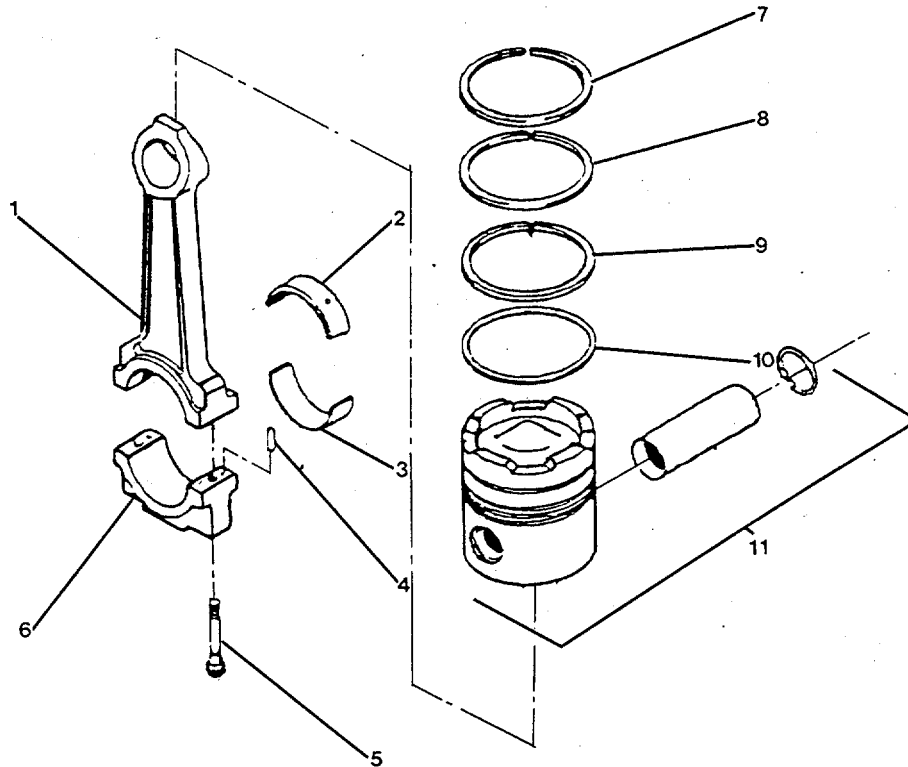

FIGURE 3-57. Connecting Rod and Piston Group.
- b. Loosen the connecting rod machine bolts (5, Figure 3-57).
- c. Use a rubber hammer to hit the connecting rod bolts (5, Figure 3-57) to loosen the cap (6) from the piston pin (4) in the connecting rod (1).
- e. Remove the connecting rod bolts (5).
- f. Remove the lower rod cap (6) and lower rod bearings (3). Mark the cylinder number and the letter "L" in the flat surface of the bearing tang.
- g. Remove the upper rod bearings (2). Mark the cylinder number and the letter "U" in the flat surface of the bearing tang.
- a. Install the upper bearing shell (2, Figure 3-57) in the connecting rod (1). If used bearing shells are to be installed, each bearing shell must be installed in its original location.
- j. Install the connecting rod in the cylinder liner, and push the piston down. If the piston does not move freely, remove the piston. Inspect for broken or damaged rings (7 through 10, Figure 3-57). Replace damaged rings.
- o. Install the lower connecting rod caps (6, Figure 3-57) and bolts (5) to connecting rod (1).